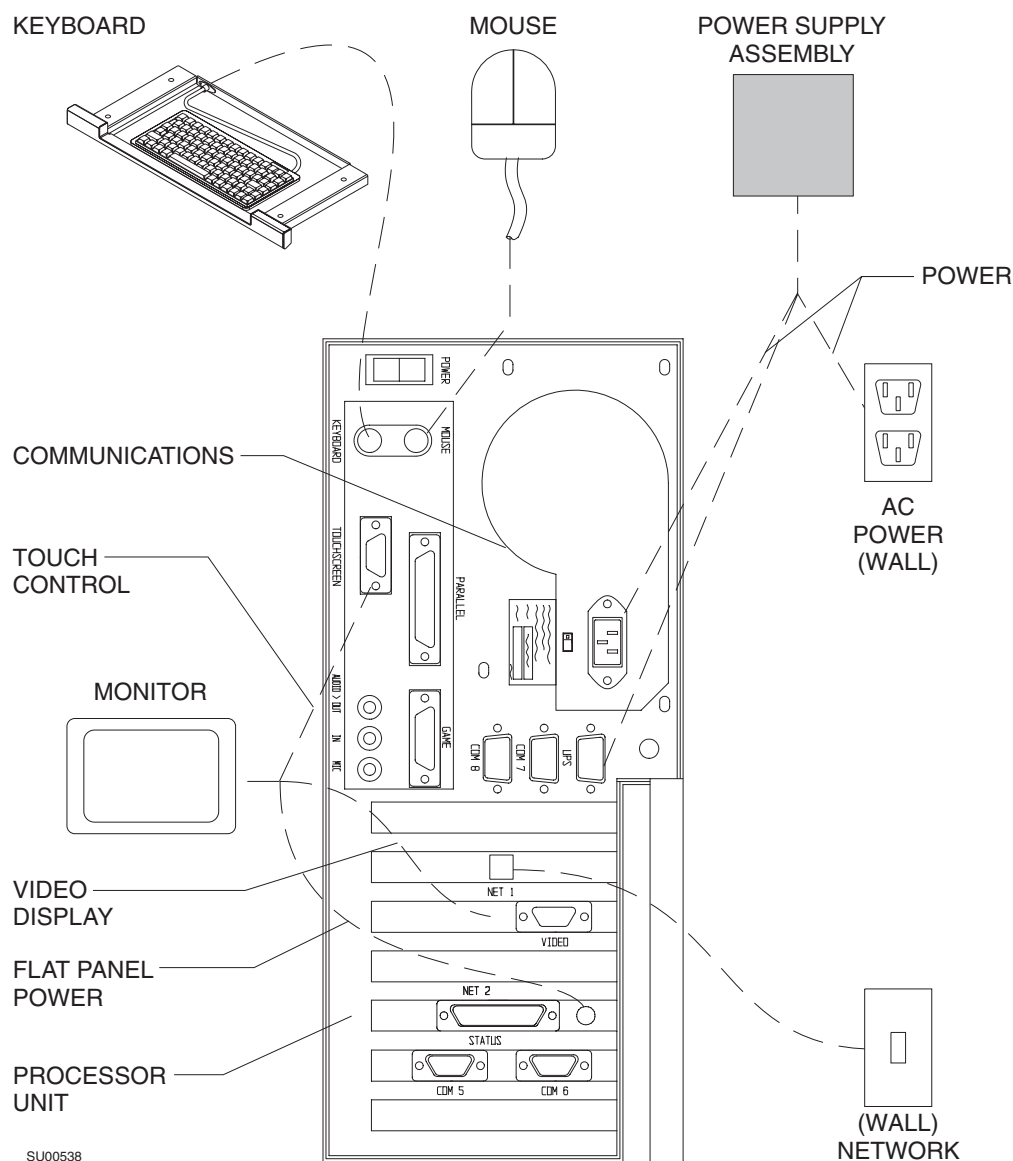

FIGURE 1. Typical 233 Mhz Processor Cable Connections
4. Disconnect power supply cables from the Saturn processor. Disconnection of these cables will depend on the processor installed on the machine. Figures 1, 2, and 3 illustrate the cable connections for each of the three processor configurations.
9. Reconnect new power supply cables from power supply to processor unit. See Figures 1, 2, and 3 for correct cable connections based on the processor installed.
10. Connect new cables from power supply to processor unit. See Figures 1, 2, and 3 for correct cable connections based on the processor installed.